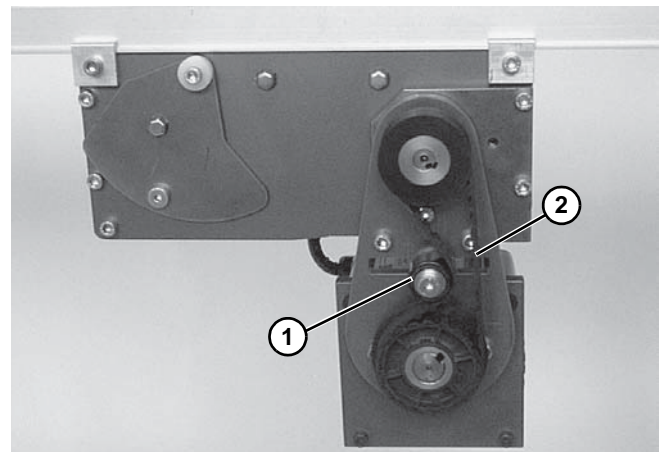

**Figure 45**
1. Remove cover screws (**Figure 45, item 1**) and remove cover (**Figure 45, item 2**).